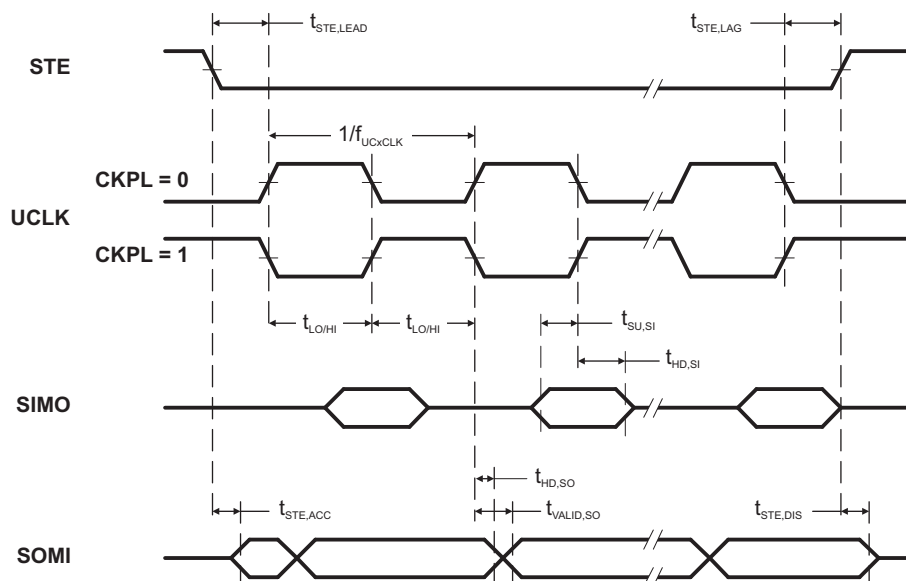
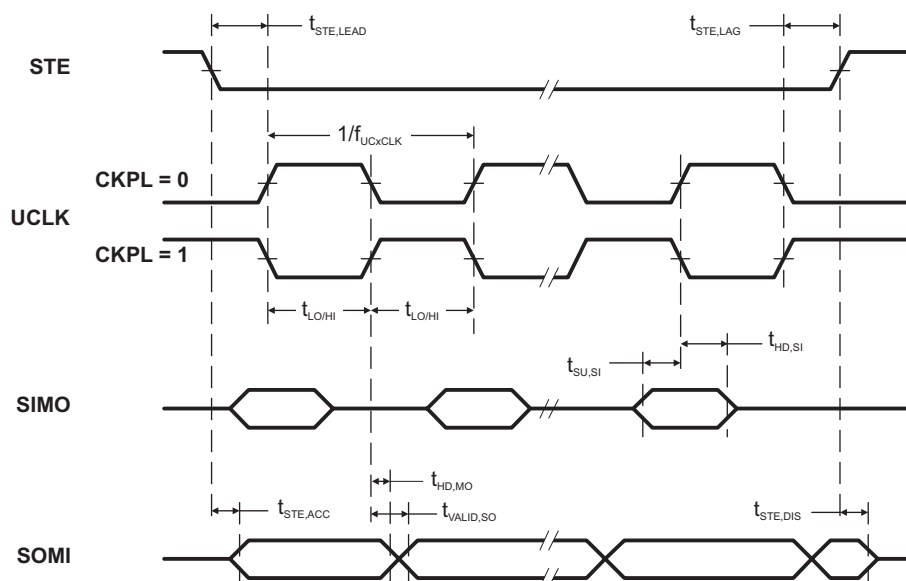

Figure 14. SPI Slave Mode, CKPH = 0
Figure 15. SPI Slave Mode, CKPH = 1
(see Figure 14 and Figure 15)
(2) Specifies the time to drive the next valid data to the SOMI output after the output changing UCLK clock edge. See the timing diagrams in Figure 14 and Figure 15.
(3) Specifies how long data on the SOMI output is valid after the output changing UCLK clock edge. See the timing diagrams in Figure 14 and Figure 15.